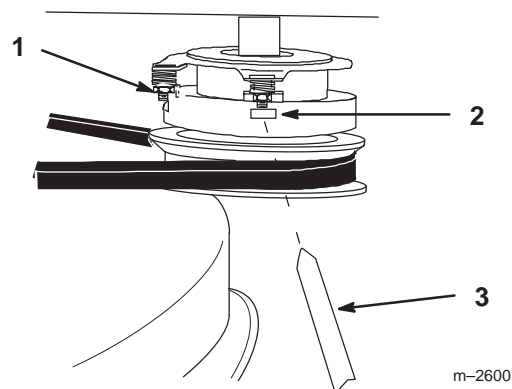

Figure 37
1. To adjust clutch, tighten or loosen lock nuts on flange studs (Fig. 37).
2. Check adjustment by inserting feeler gauge through slots next to studs (Fig. 37).